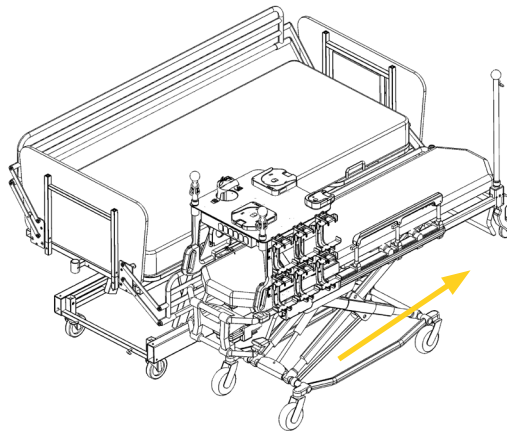

Figure 6: Mobile structure position after lateral transfer
12. Push the mobile structure towards the patient head end until it locks (Figure 6).